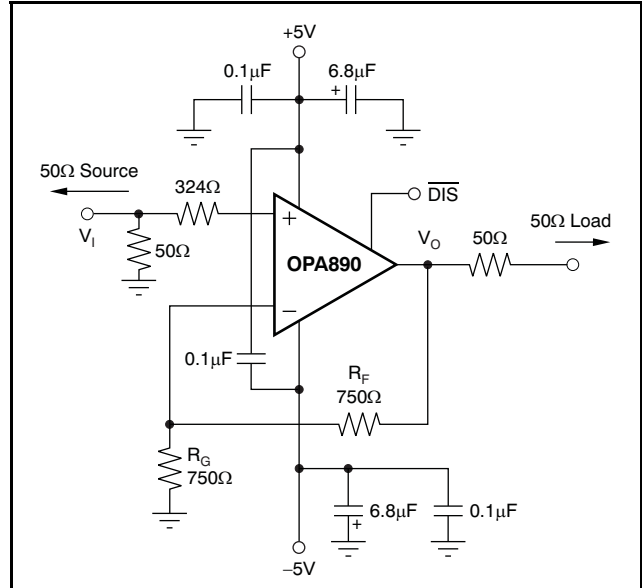
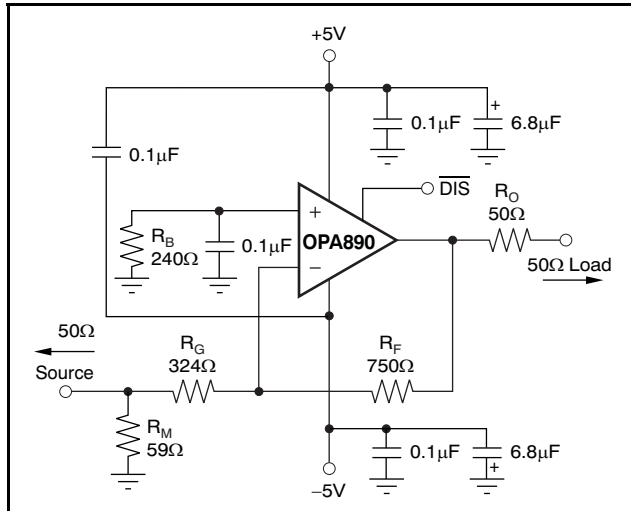

Figure 46. DC-Coupled, G = +2, Bipolar Supply, Specification and Test Circuit
Figure 51. Gain of $-2V/V$ Example Circuit
Figure 46 shows the dc-coupled, gain of +2, dual power-supply circuit configuration used as the basis of the ±5V Electrical Characteristics and Typical Characteristics. For test purposes, the input impedance is set to 50Ω with a resistor to ground and the output impedance is set to 50Ω with a series output resistor. Voltage swings reported in the Typical Characteristics are taken directly at the input and output pins, while output powers (dBm) are at the matched 50Ω load. For the circuit of Figure 46, the total effective load will be 100Ω || 1.5kΩ. The disable control line is typically left open to ensure normal amplifier operation. Two optional components are included in Figure 46. An additional resistor (324Ω) is included in series with the noninverting input. Combined with the 25Ω dc source resistance looking back towards the signal generator, this configuration gives an input bias current cancelling resistance that matches the 375Ω source resistance seen at the inverting input (see the DC Accuracy and Offset Control section). In addition to the usual power-supply decoupling capacitors to ground, a 0.1μF capacitor is included between the two power-supply pins. In practical printed circuit board (PCB) layouts, this optional-added capacitor typically improves the 2nd-harmonic distortion performance by 3dB to 6dB.
Voltage-feedback op amps exhibit decreasing closed-loop bandwidth as the signal gain is increased. In theory, this relationship is described by the gain bandwidth product (GBP) shown in the *Electrical Characteristics*. Ideally, dividing GBP by the noninverting signal gain (also called the noise gain, or NG) predicts the closed-loop bandwidth. In practice, this relationship only holds true when the phase margin approaches 90° , as it does in high-gain configurations. At low gains (increased feedback factors), most amplifiers exhibit a more complex response with lower phase margin. The OPA890 is compensated to give a slightly peaked response in a noninverting gain of $2V/V$ (see Figure 46). This compensation results in a typical gain of $+2V/V$ bandwidth of $115MHz$, far exceeding that predicted by dividing the $130MHz$ GBP by 2. Increasing the gain causes the phase margin to approach 90° and the bandwidth to more closely
The OPA890 is a general-purpose, wideband voltage-feedback op amp; therefore, all of the familiar op amp application circuits are available to the designer. Inverting operation is one of the more common requirements and offers several performance benefits. Figure 51 shows a typical inverting configuration where the I/O impedances and signal gain from Figure 46 are retained in an inverting circuit configuration.
In the inverting configuration, three key design considerations must be noted. First, the gain resistor (R_G) becomes part of the signal channel input impedance. If input impedance matching is desired (which is beneficial whenever the signal is coupled through a cable, twisted-pair, long PCB trace, or other transmission line conductor), R_G may be set equal to the required termination value and R_F adjusted to give the desired gain. This approach is the simplest, and results in optimum bandwidth and noise performance. However, at low inverting gains, the resultant feedback resistor value can present a significant load to the amplifier output. For an inverting gain of $-2V/V$, setting R_G to 50Ω for input matching eliminates the need for R_M but requires a 100Ω feedback resistor. This option has the interesting advantage that the noise gain becomes equal to $2V/V$ for a 50Ω source impedance—the same as the noninverting circuits considered in the previous section. The amplifier output, however, now sees the 100Ω feedback resistor in parallel with the external load. In general, the feedback resistor should be limited to a range of 200Ω to $1.5k\Omega$. In this case, it is preferable to increase both the R_F and R_G values, as shown in Figure 51, and then achieve the input matching impedance with a third resistor (R_M) to ground. The total input impedance becomes the parallel combination of R_G and R_M .
The second major consideration, touched on in the previous paragraph, is that the signal source impedance becomes part of the noise gain equation and influences the bandwidth. For the example in Figure 51, the R_M value combines in parallel with the external 50Ω source impedance, yielding an effective driving impedance of $50\Omega \parallel 59\Omega = 27\Omega$. This impedance is added in series with R_G for calculating the noise gain (NG). The resulting NG is $3.14V/V$ for Figure 51, as opposed to only 2 if R_M could be eliminated as discussed previously. The bandwidth is therefore slightly lower for the gain of $-2V/V$ circuit of Figure 51 than for the gain of $+2V/V$ circuit of Figure 46.
The third important consideration in inverting amplifier design is setting the bias current cancellation resistor on the noninverting input (R_B). If this resistor is set equal to the total dc resistance looking out of the inverting node, the output dc error (because of the input bias currents) is reduced to $(\text{Input Offset Current}) \times R_F$. If the 50Ω source impedance is dc-coupled in Figure 51, the total resistance to ground on the inverting input is 351Ω . Combining this resistance in parallel with the feedback resistor gives the value of $R_B = 240\Omega$ used in this example. To reduce the additional high-frequency noise introduced by this resistor, it is sometimes bypassed with a capacitor. As long as $R_B < 350\Omega$, a capacitor is not required because the total noise contribution of all other terms is less than that of the op amp input noise voltage. As a minimum, the OPA890 requires an R_B value of 50Ω to damp out parasitic-induced peaking—a direct short to ground on the noninverting input runs the risk of a very high-frequency instability in the input stage.
Evaluating these two equations for the OPA890 circuit and component values (see Figure 46) gives a total output spot noise voltage of 17.4nV/√Hz and a total equivalent input spot noise voltage of 8.7nV/√Hz. This total includes the noise added by the bias current cancellation resistor (175Ω) on the noninverting input. This total input-referred spot noise voltage is only slightly higher than the 8nV/√Hz specification for the op amp voltage noise alone. This result will be the case, as long as the impedances appearing at each op amp input are limited to the previously recommend maximum value of 350Ω. Keeping both (R_F || R_G) and the noninverting input source impedance less than 350Ω satisfies both noise and frequency response flatness considerations. Because the resistor-induced noise is relatively negligible, additional capacitive decoupling across the bias current cancellation resistor (R_B) for the inverting op amp configuration of Figure 51 is not required.
The balanced input stage of a wideband voltage-feedback op amp allows good output dc accuracy in a wide variety of applications. The power-supply current trim for the OPA890 gives even tighter control than comparable amplifiers. Although the high-speed input stage does require relatively high input bias current (+25°C worst case, 1.6μA at each input terminal), the close matching between them may be used to reduce the output dc error caused by this current. The total output offset voltage may be considerably reduced by matching the dc source resistances appearing at the two inputs. This matching reduces the output dc error resulting from the input bias currents to the offset current times the feedback resistor. Evaluating the configuration of Figure 46, and using worst-case +25°C input offset voltage and current specifications, gives a worst-case output offset voltage equal to: